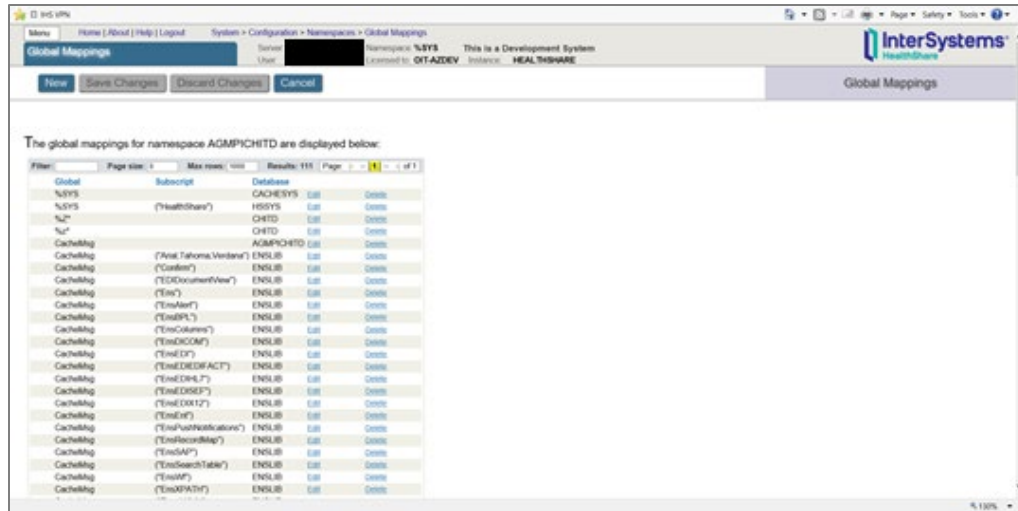

Figure 4-2: Creating a new global mapping on the **Global Mappings** page
2. On the **Global Mappings** page, click **New** to display the **Global Mapping** dialog box, as shown in Figure 4-2.